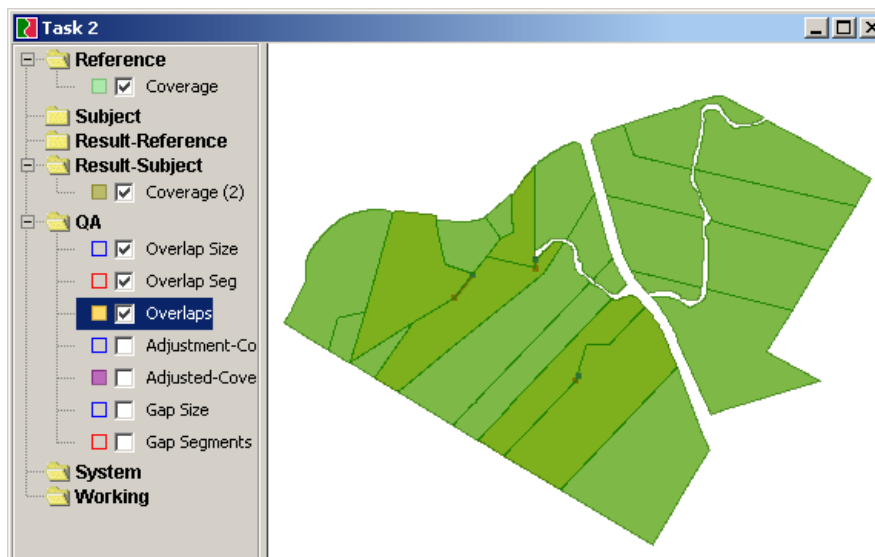

Figure 13 - Layers created by the Find Coverage Overlaps function
- When the Find Coverage Overlap function executes it will create three new layers in the QA category (see Figure 13 below):